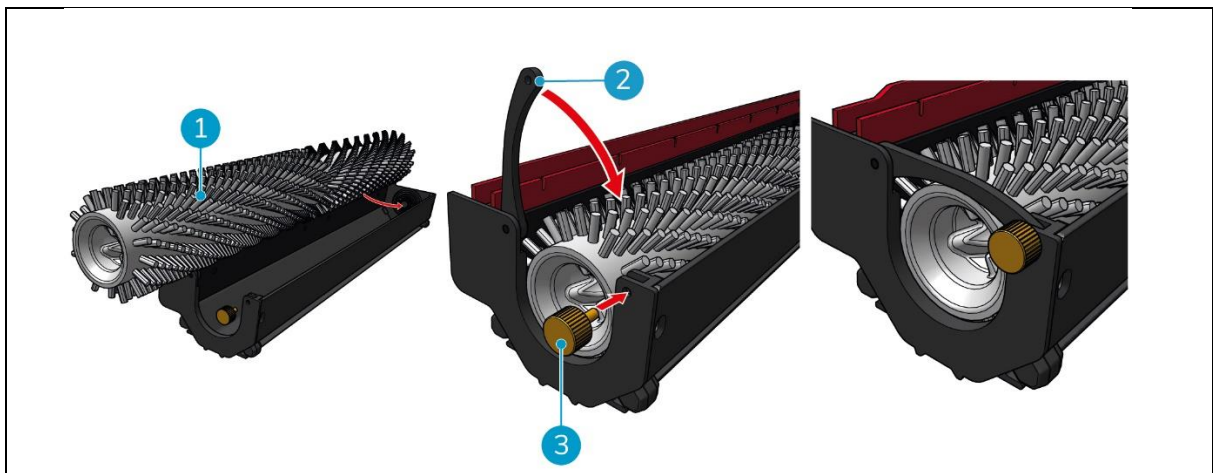

Figure 37
4. Replace the roller brush (Figure 37, pos. 1) in the holder. Make sure that the brush rests properly in the holder!
5. Close the lever (Figure 37, pos. 2) and tighten the screw (Figure 37, pos. 3) clockwise.